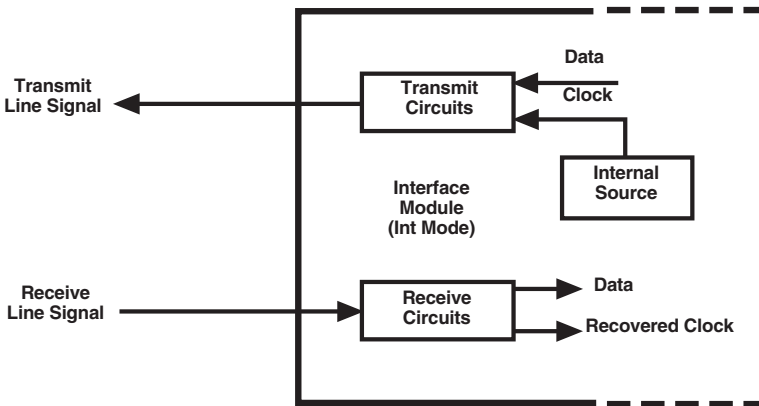

Figure 2-3. Flow of timing signals for INT mode.
Figure 2-3 shows the flow of timing signals with internal timing.
- INT—the transmit clock is derived from an internal oscillator. **Figure 2-3** in **Section 2.2.5** shows the flow of timing signals with internal timing.